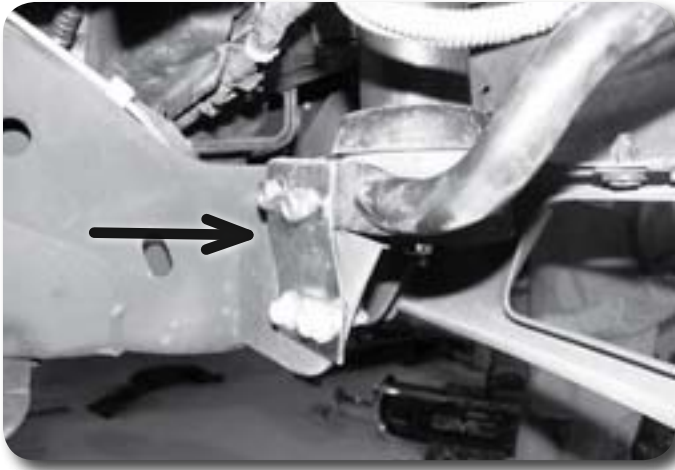

Figure 24
58. Mount the outside bumper support relocation brackets (shown) to the outside bumper support brackets with  $\frac{7}{16}$ " x 1- $\frac{1}{4}$ " bolts, nuts, and  $\frac{3}{8}$ " USS washers. Do not tighten at this time **Figure 24**.
59. Loosely mount the relocation brackets to the original bracket location using the stock hardware **Figure 24**.